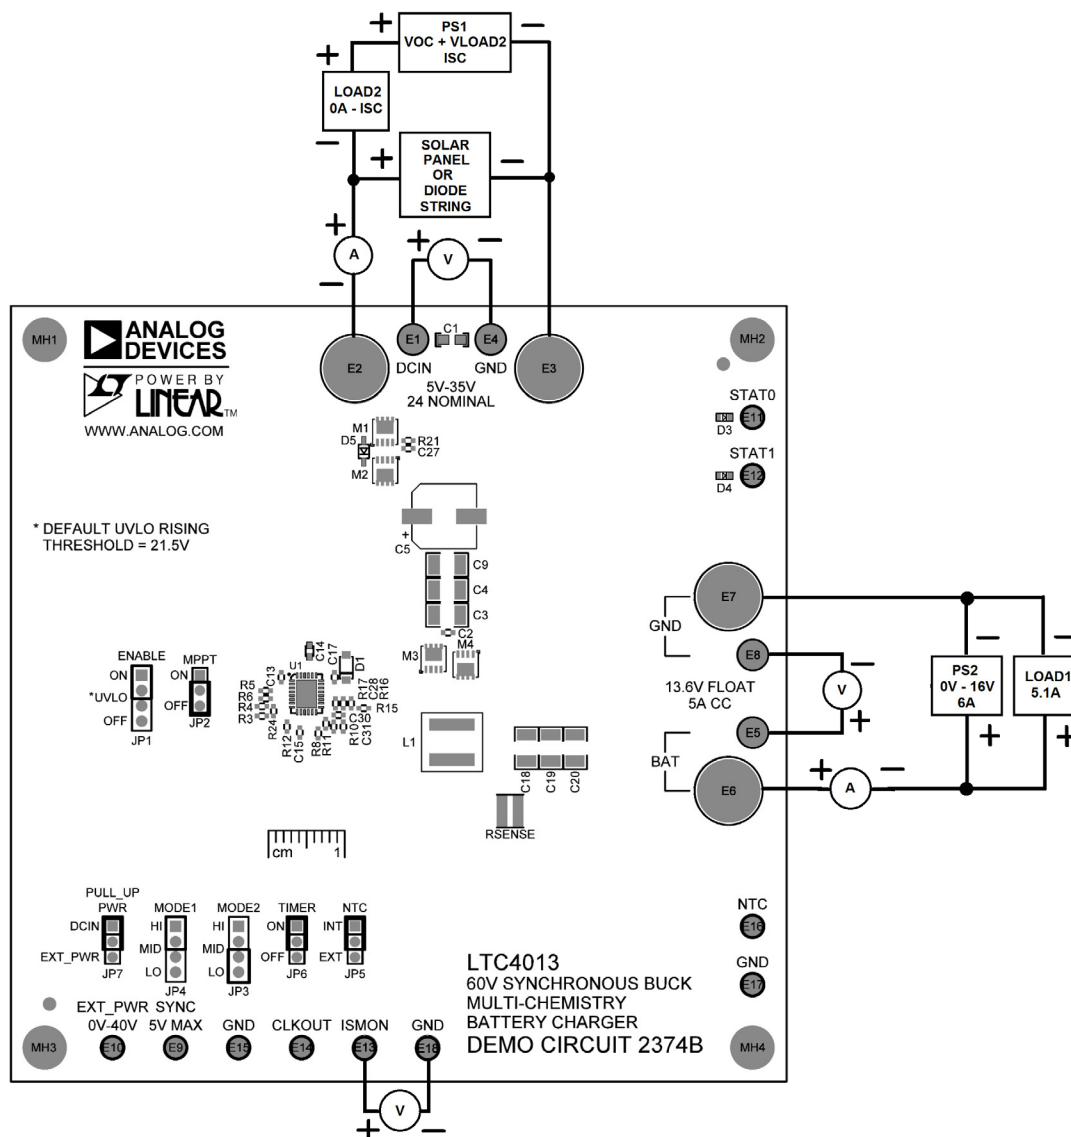
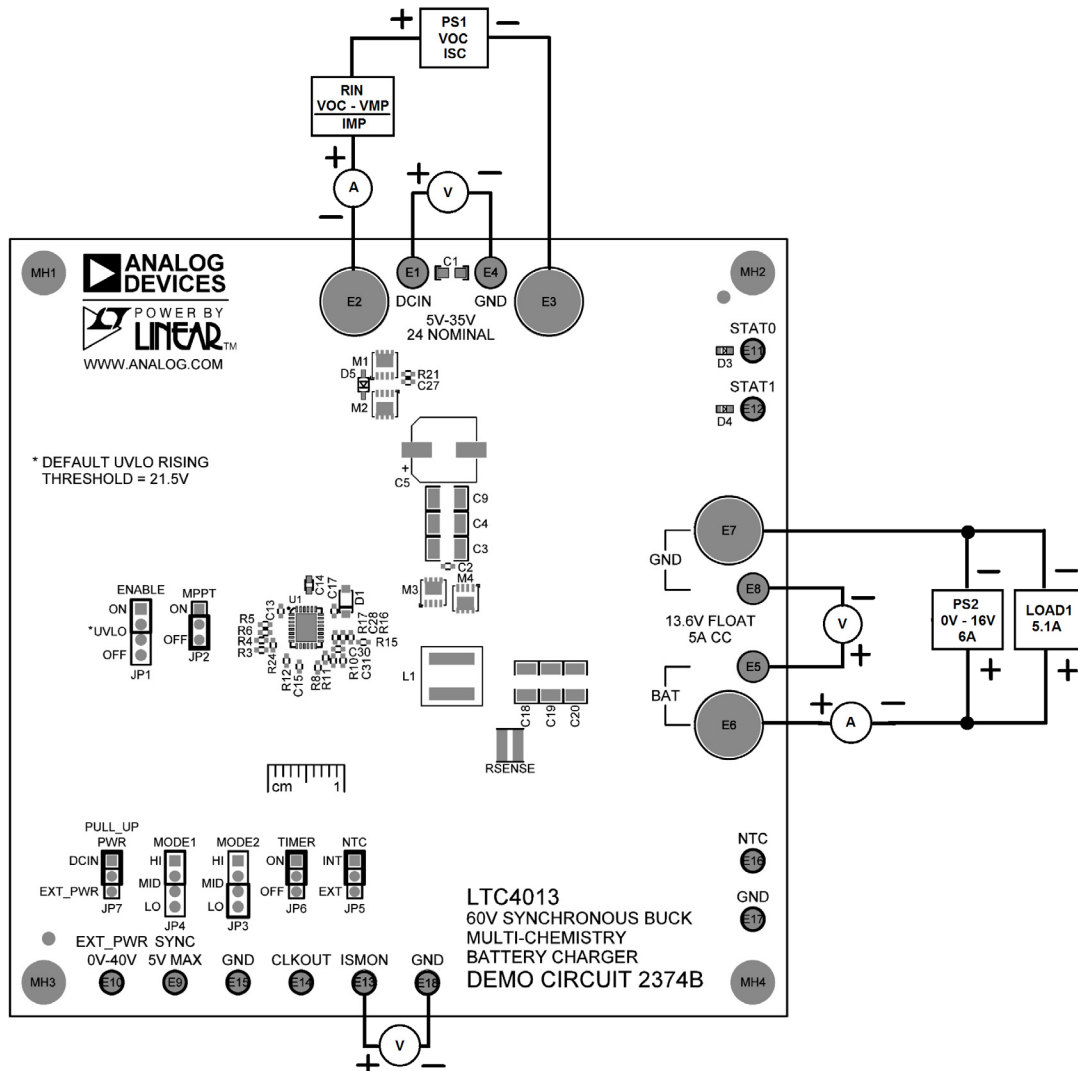

Figure 3. Solar Panel Simulator Using a Dark Solar Panel or Diode String
Figure 4. Solar Simulator Using a Power Supply with Series Resistor
There are a number of ways to test the MPPT function of the LTC4013. The most accurate way is to use a solar panel in sunlight, however it is difficult to control the sunlight conditions. Another method is to use a covered solar panel (dark panel) biased thru a controlled current source from 0A to the short circuit current (I_{SC}) of the panel as shown in Figure 3. The solar panel can be replaced with a string of silicon rectifier diodes that can handle the power dissipation of $V_f \cdot I_{SC}$. With these methods, increasing the current on the panel to I_{SC} produces the maximum V_{OC} for a full light condition. Reducing this current simulates lower light conditions.
A more simple method is to supply a voltage to DCIN with a series input resistor (R_{IN}) as shown in Figure 4. R_{IN} is calculated by $(V_{OC} - V_{PM})/I_{MP}$ where I_{MP} is the maximum power current. The supply current limit is set to I_{SC} and the voltage of the supply is set to the desired V_{OC} representing the desired sunlight. Set the power supply to the maximum V_{OC} to produce a full light condition. Reducing the supply voltage simulates lower light conditions.
5. With power off, connect a solar panel or solar panel simulator as previously discussed and refer to Figure 3 and Figure 4 as needed.